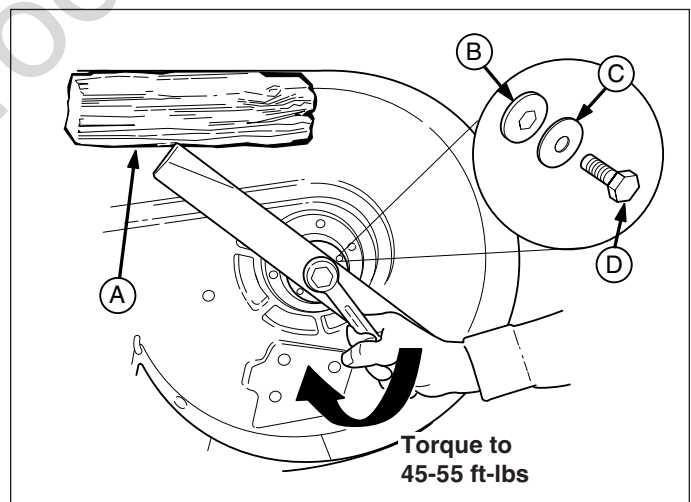

Figure 21. Installing The Blade
6. Reinstall each blade with the tabs pointing up toward deck as shown in Figure 21. Secure with a capscrew (D), cup washer (C) and hex washer (B). Use a wood-en block (A) to prevent blade rotation and torque cap-screws to 45-55 ft-lbs (61-75 Nm).